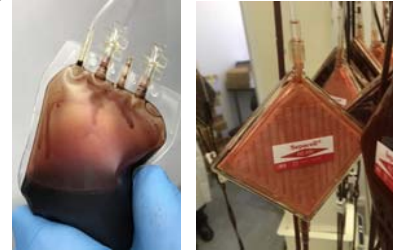

Figure 9
8. Squeeze the transfer bag and push the air in the bag out through the check valve and transfer the air into the main bag. Then re-open the clamp and let the remaining blood flow through the tube and the filter (Figure 9).